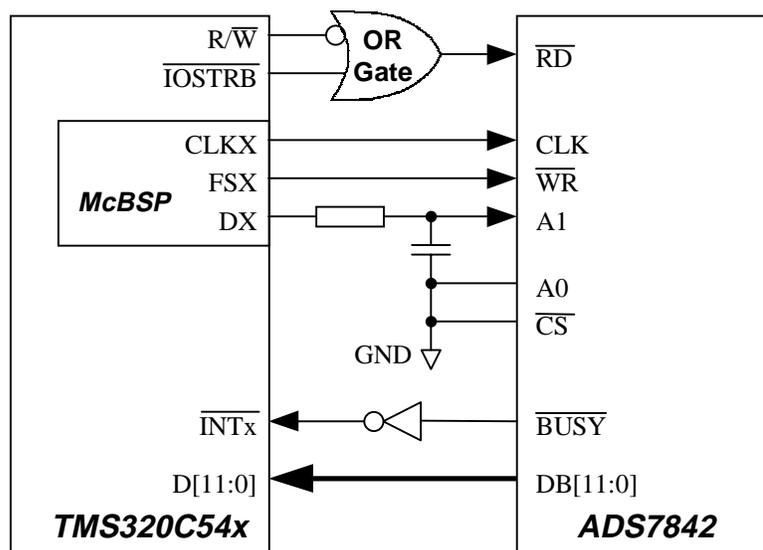

Figure 11. C54x™ DSP/ADS7842 Interface With Control Signals Generated by McBSP
The signals of the McBSP can be used to generate the clock and the conversion start signal, just as described in Section 3.3 for the C6000 DSP. The following example refers to devices that feature a 'multichannel buffered serial port' (McBSP). On devices which only have a BSP (buffered serial port) instead of a McBSP, this scheme could also be used, but without the option to make a channel selection between two channels. The BSP only allows transferring 16-bit values. Devices with a standard serial port (SP) would need external logic. On this device frame sync can not be programmed to be low active, but this is needed. Figure 11 shows the schematic for a C5000 DSP with a McBSP.